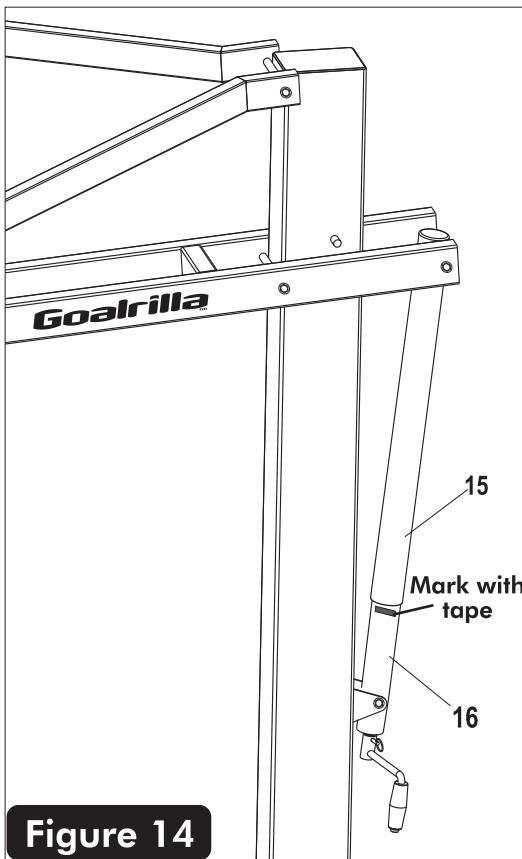

Figure 14
22. Using tape - mark the **side** of the steel actuator (#16) just under the plastic actuator sleeve (#15) at this 10 ft rim height. See **Figure 14**.